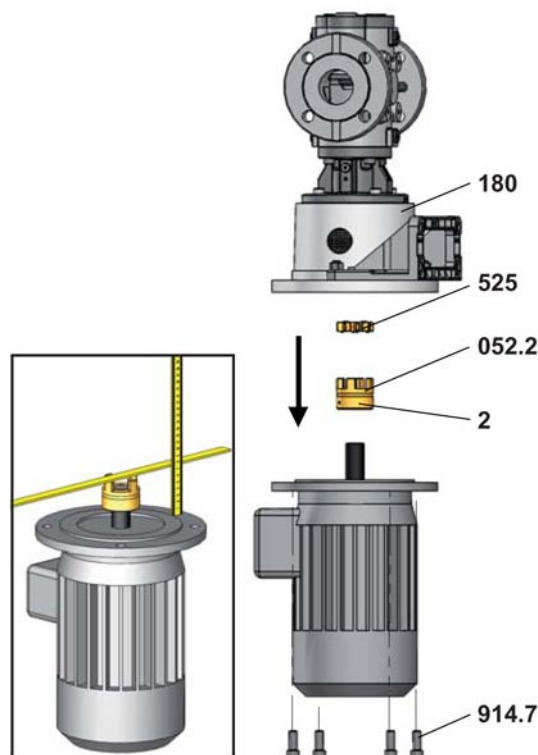

Fig. 5
5. Mount the motor-side coupling half **052.2** on the shaft end of the motor, see Fig. 5. Heating the coupling to 80°C – 100°C facilitates mounting.